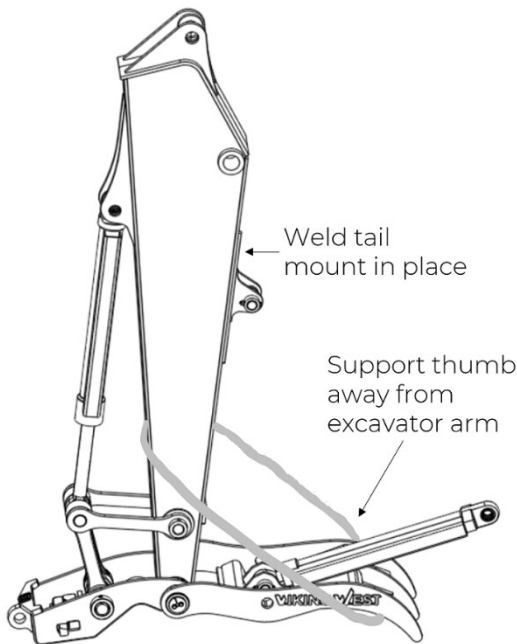

Figure 12: Supporting the thumb during welding.
1. Remove the cylinder thumb pin attaching the cylinder to the tail mount, and then rotate the thumb and cylinder away from the excavator arm. Support the thumb by using a safety strap or other similar device, as shown in Figure 12 below.